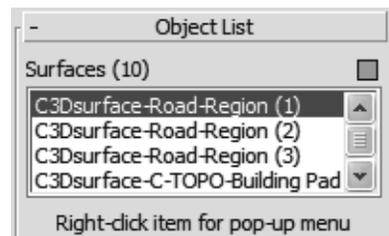

Figure 3–6
16. Verify that the *Civil Explorer* tab is open. Expand **Civil View Objects>Imported Objects**, if not already expanded. Select **Surfaces** and note that the corridor is selected in the viewports, and the Object List rollout opens. In the Object List rollout, note that all of the surfaces are listed, as shown in Figure 3–6.